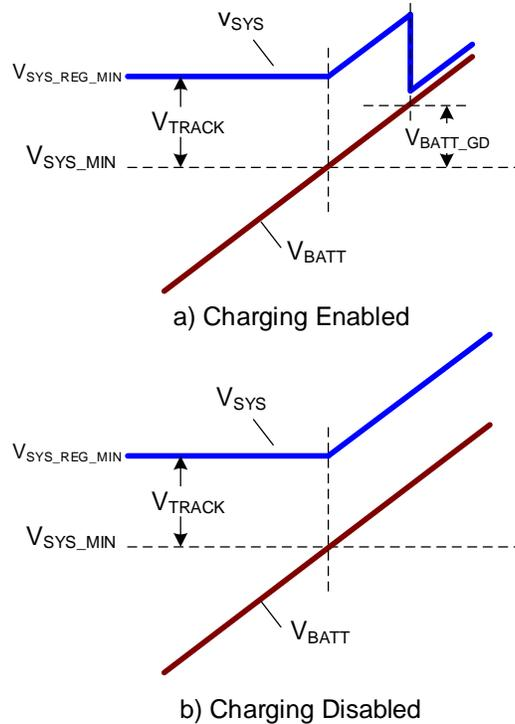

Figure 5:  $V_{SYS}$  Variation with  $V_{BATT}$
3. If charging is suspended or completed, the system voltage is regulated to its maximum value (see Figure 5).